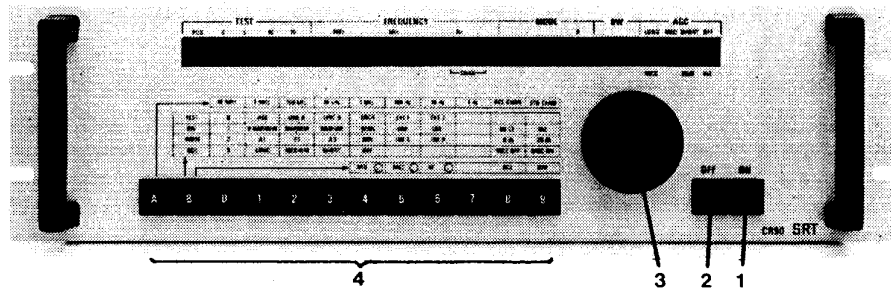

Figure 3:1 Front Panel CR90
3.1 CONTROLS (figure 3:1)
3.2 DISPLAY (figure 3:1)